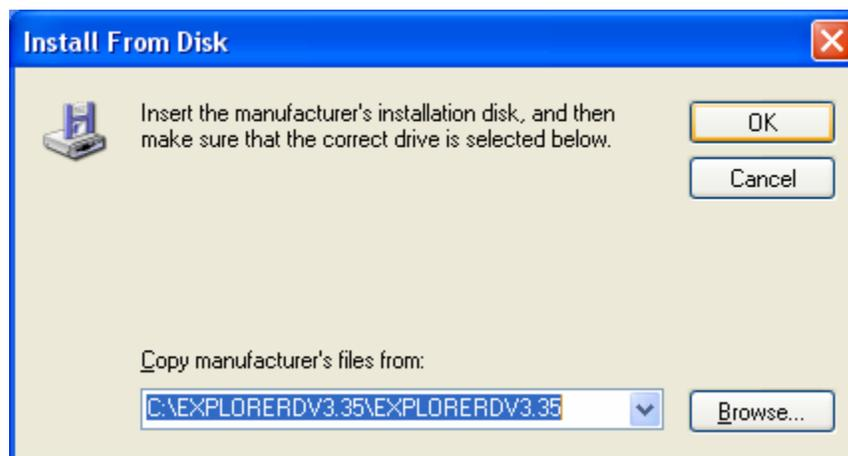

Fig. 4-8 Print Driver Installation
STEP 9: Select the port that the machine is connected to and click **OK** (see fig. 4-8)